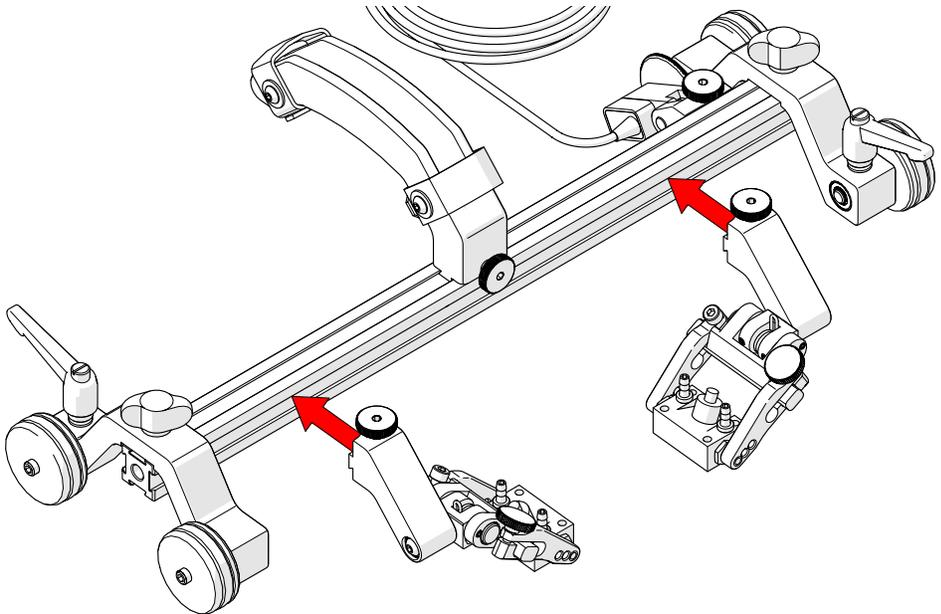

Fig. 49 - Attach spring-loaded probe holders to appropriate configuration
2. Assemble the appropriate configuration (Fig. 49). Attach the spring-loaded probe holders to the frame bar where appropriate.